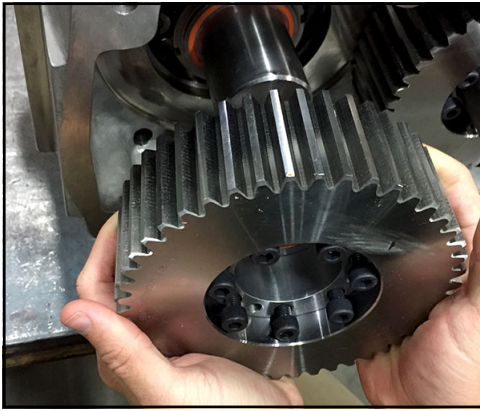

Figure 224 - Install gears onto pump shafts
4. Install the gear onto the pump shaft as shown in Figure 224. Push the gears back until the locking assembly is resting against the locking nut.